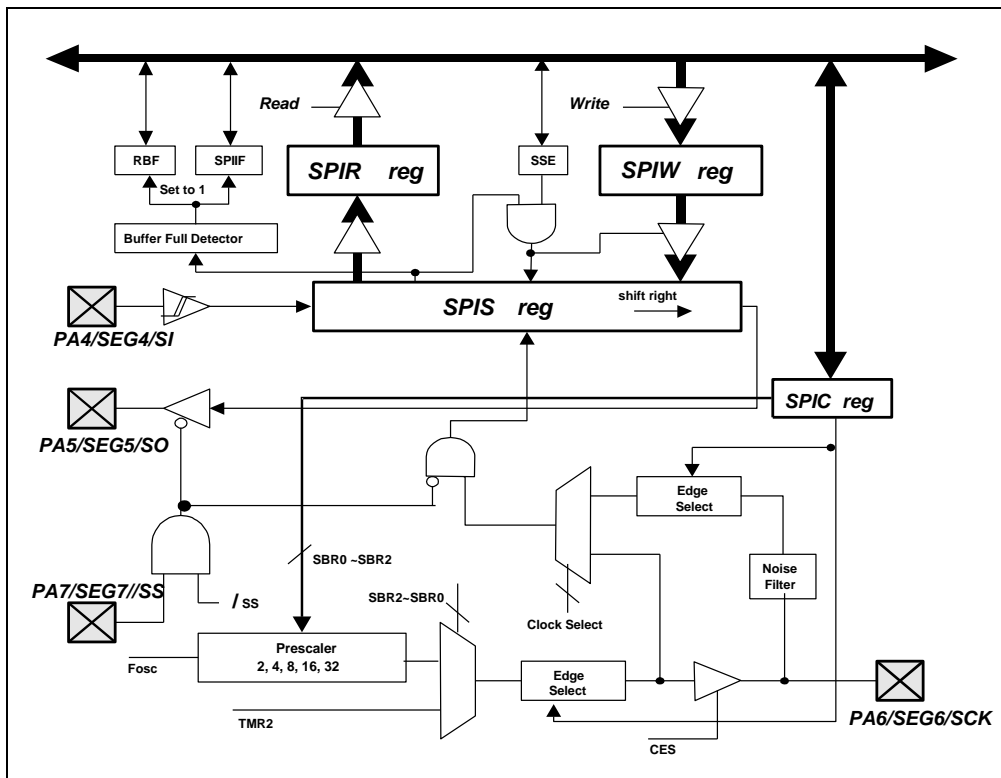
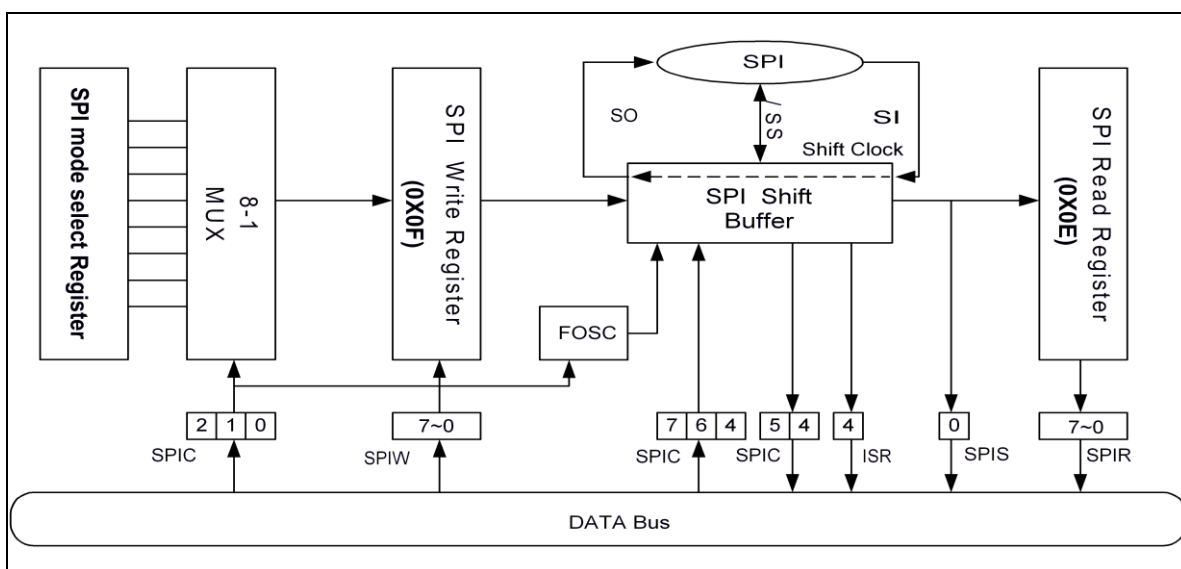

Figure 6-22 SPI Block Diagram
Figure 6-23 Function Block Diagram of SPI Transmission
Below are the functions of each block and explanations on how to carry out the SPI communication with the signals depicted in Figure 6-22 and Figure 6-23.
- Timing is shown in Figure 6-23 and 6-24.
- Timing is shown in Figure 6-23 and 6-24